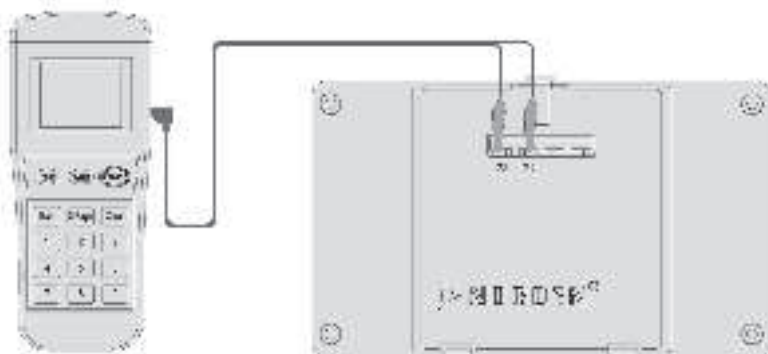

Figure 4: Programming tool Connection Detail
1. Connect the programming cable to Z1 and Z2 terminals (Figure 4). Press **“Power”** to switch on the unit.